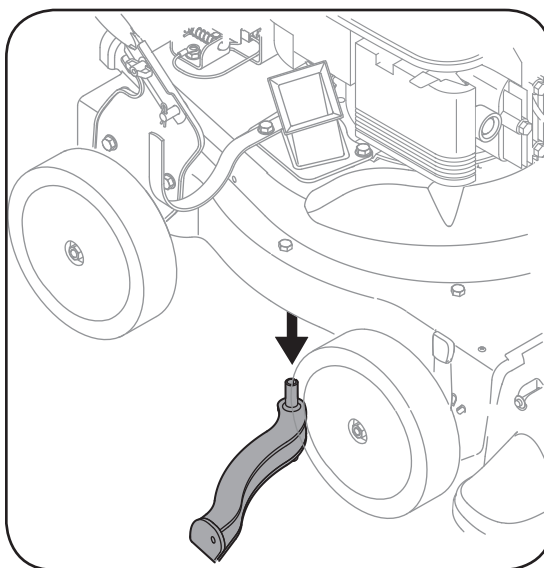

Figure 18
7. Remove and clean the screen by scraping or washing with water. See Figure 18.